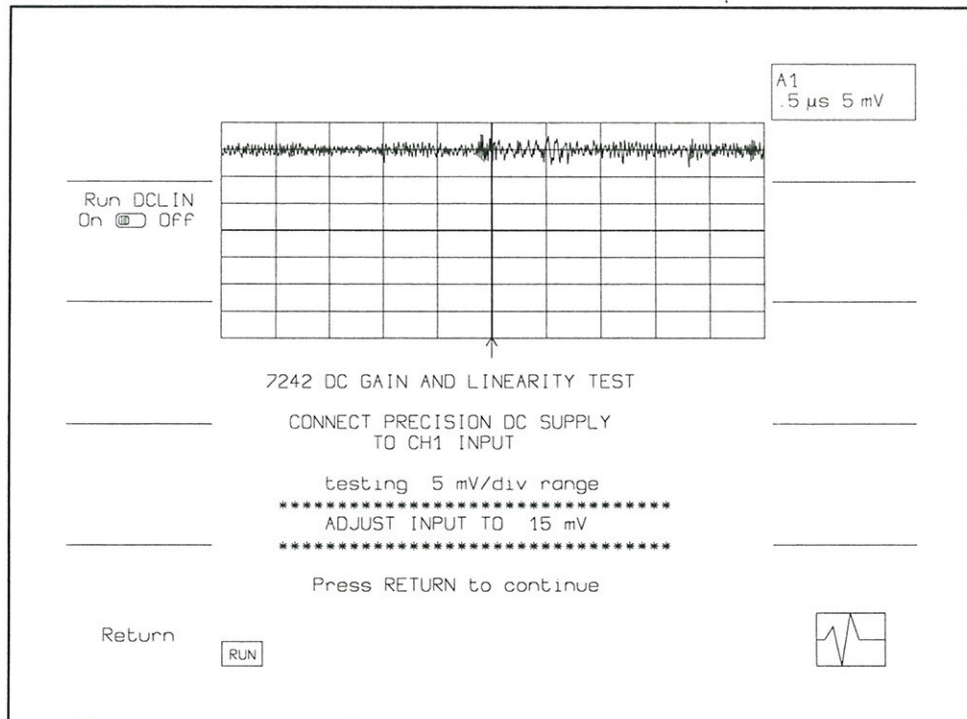

Fig 2.6
- Connect a precision DC supply, set to 0 v to the channel 1 input. If the selected LOG TYPE is either Printer or Floppy then the DC gain and linearity test data will be collected automatically. If NO LOG was selected, when the test is complete the results will be displayed on the screen as in Fig 2.6. Record these results in Table 2.3. Follow the displayed instructions.
The 7200 will calculate the average mean value for 100 sweeps of 2000 points each (200,000 points). A menu as in Figure 2.6 will be displayed after each step of the test. The menu will display what voltage range is to be tested next and what voltage and polarity to adjust the DC supply to.